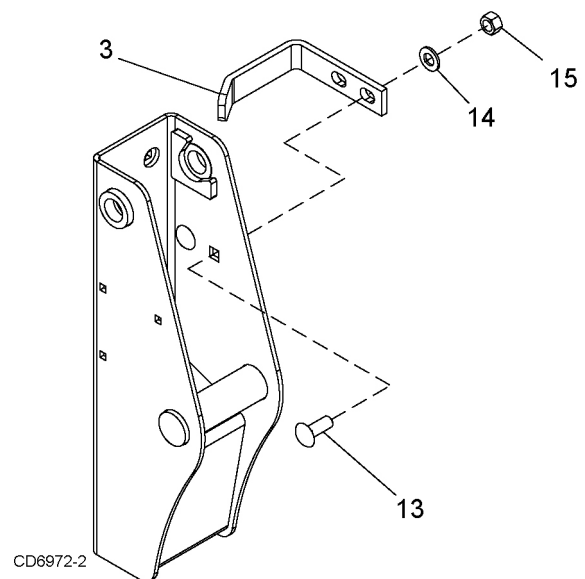

Figure 13. Hose Guide Installation
Attach hose guide (3) to the right loader mount shoe using two carriage bolts (13), hardened flat washers (14), and hex nuts (15) as shown in Figure 13.